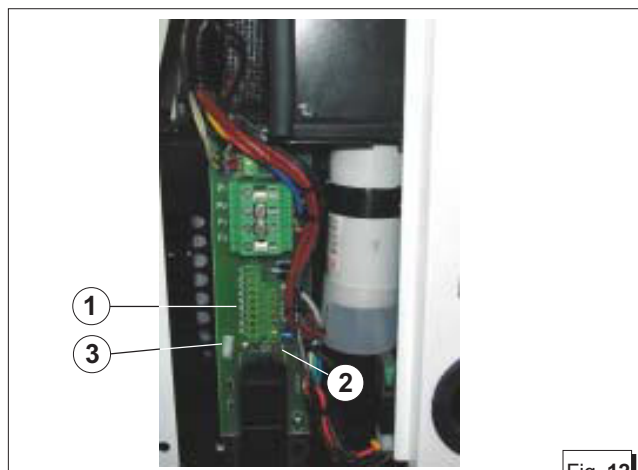

Fig. 12
This connection can be made through the terminal boards (fig. 12, ref. 1) using the cables provided already connected to the control panel. The terminals to be used are those marked no. 1 to no. 9 for the control cables. The earths braid should be connected to the faston terminal (fig. 12, ref. 2) insulating them carefully and using a pre-insulated female faston. In making the connections it is important to follow the diagram and the colours codes as indicate (fig. 13). Fasten the cable with the provided plastic support on the bail (fig. 12, ref. 3).